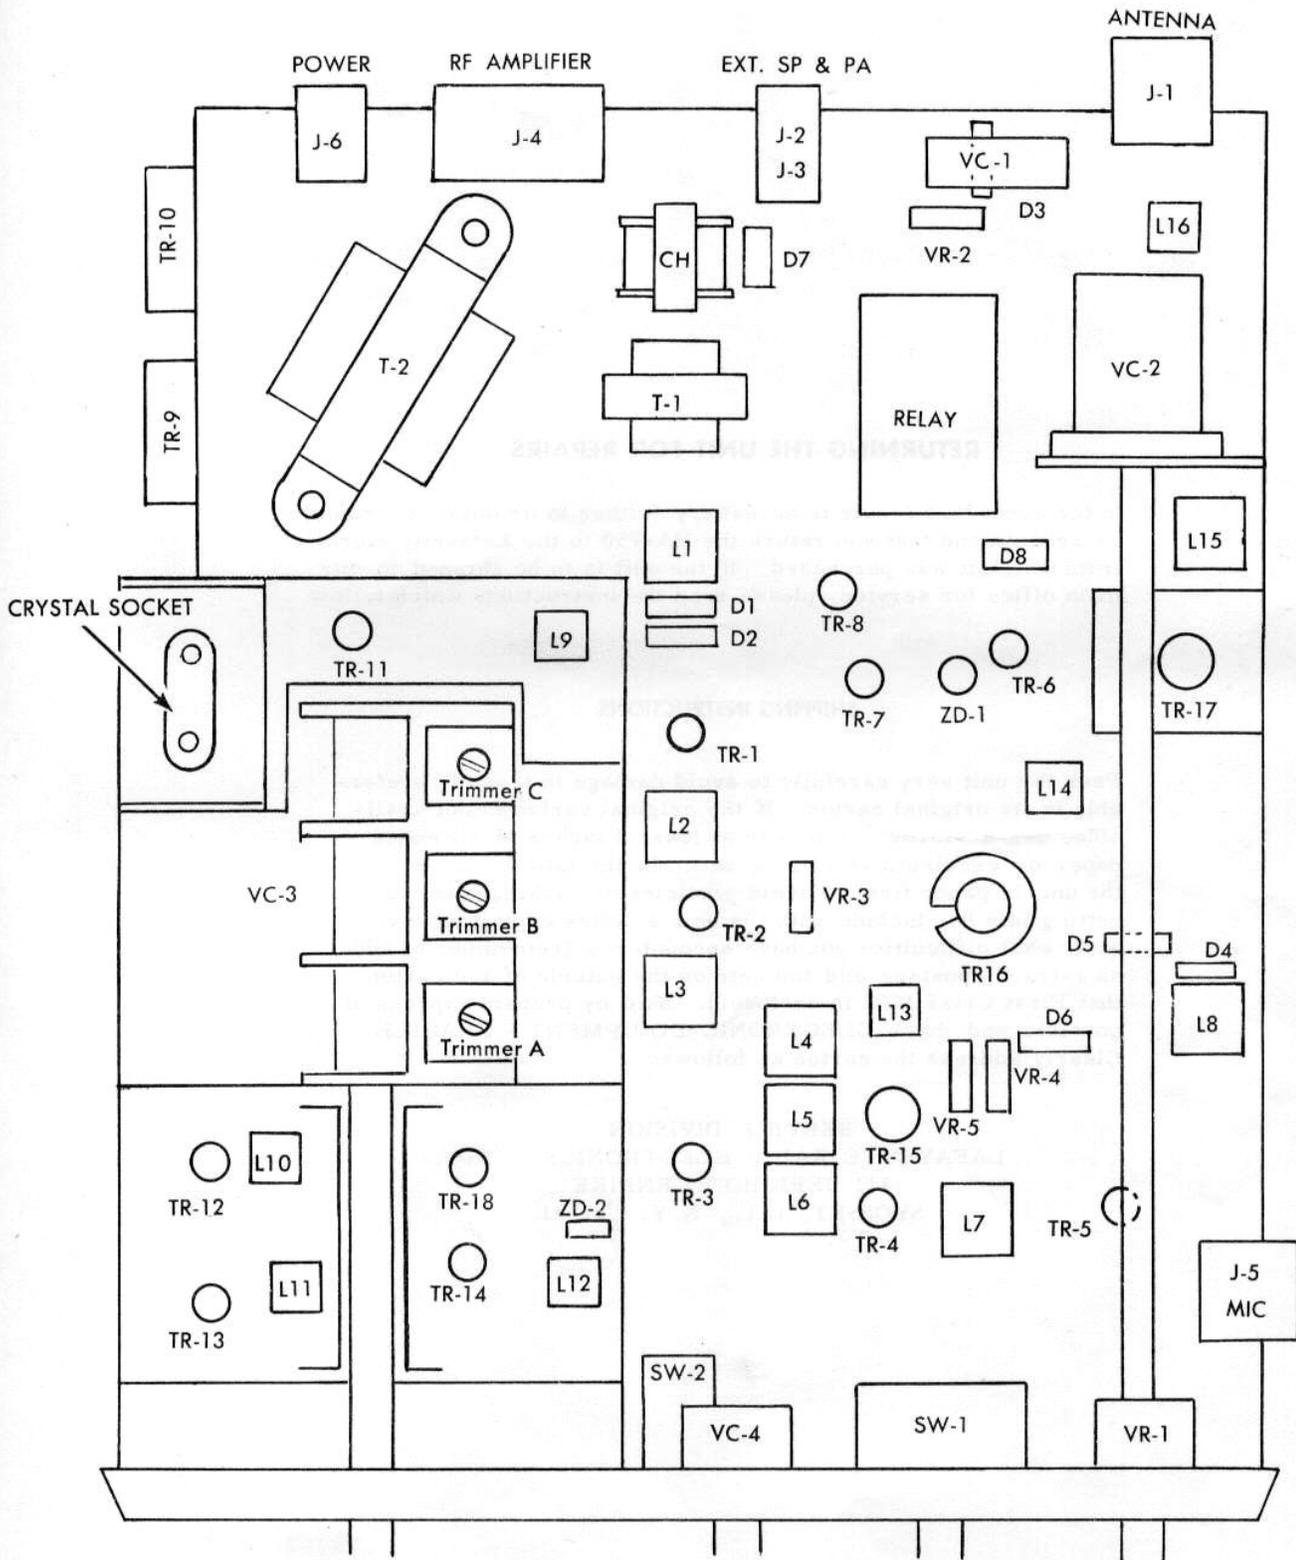

FIGURE 9. COMPONENT AND ALIGNMENT POINT LOCATION
To install a crystal in the HA-750 for crystal-controlled operation, remove the "speaker-mounted" chassis cover by removing the five (5) Phillips-head screws on the side of the cover. When removing the cover, care should be taken not to damage the speaker lead wires. Orient the unit with the front panel facing inwards, or as shown in Figure 9. The crystal socket is located on the left-hand portion of the chassis. The crystal will be selected in the XTAL mode of operation.
Do not make any adjustments unless the operation of this unit is fully understood and adequate test equipment is available. Refer to Figure 9 for the location of all alignment points.